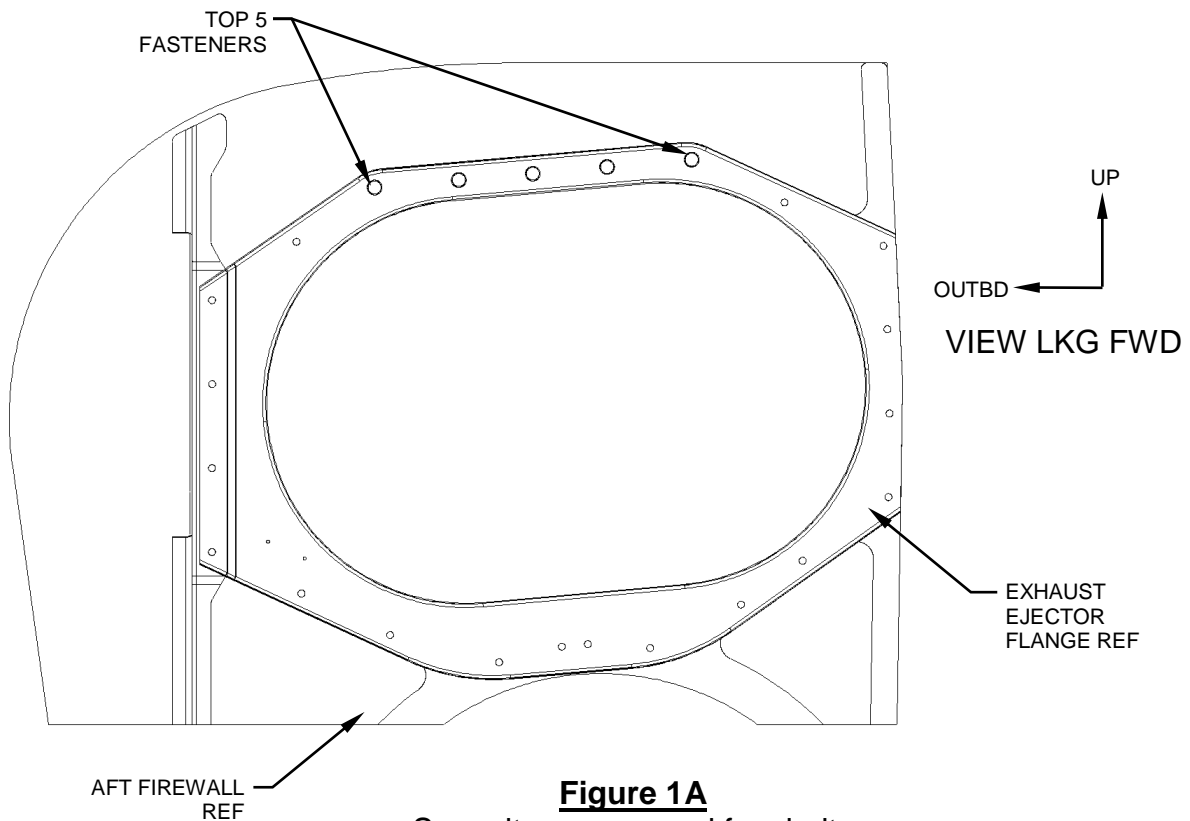

Figure 1A
2. Remove all fasteners common to the LHS Exhaust Ejector Flange except for the top 5. Reference Figure 1A.